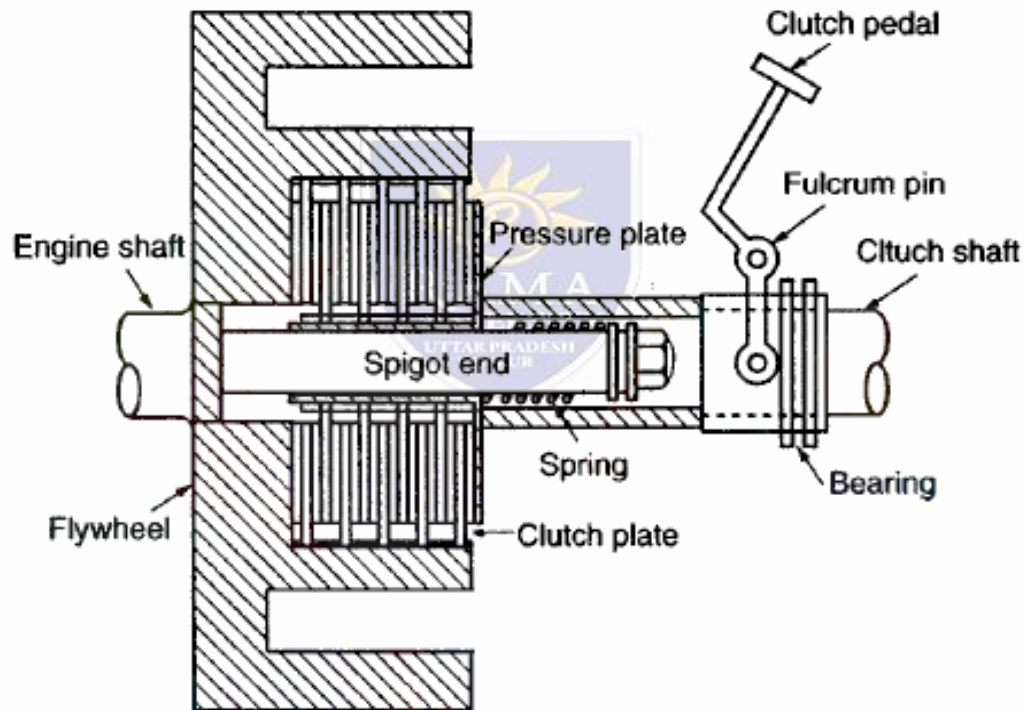

Figure 3.6 Multi-plate clutch
- The total number of clutch plates is divided into two sets in which one from each set is alternatively arranged as shown in Figure 3.6.